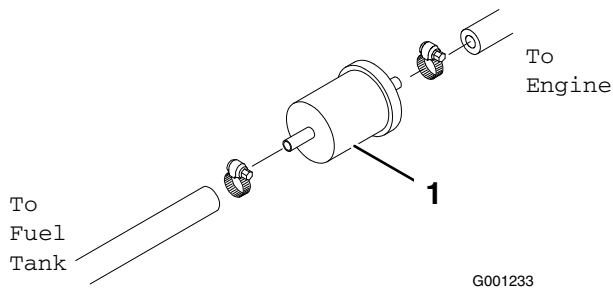

Figure 51
1. Clamp both fuel lines that connect to the fuel filter, located between fuel tank and fuel pump, so fuel cannot drain when the lines are removed (Figure 51).